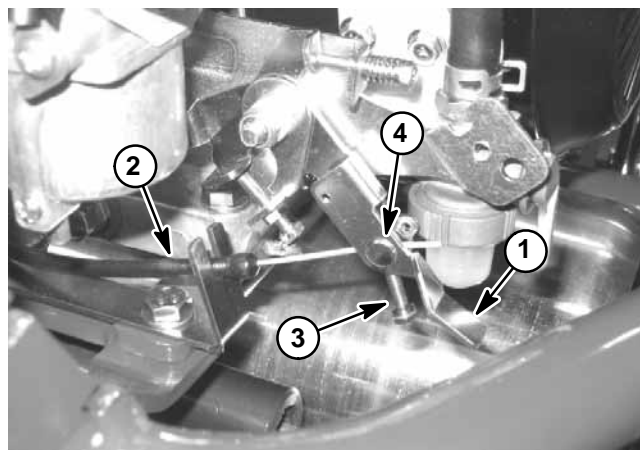
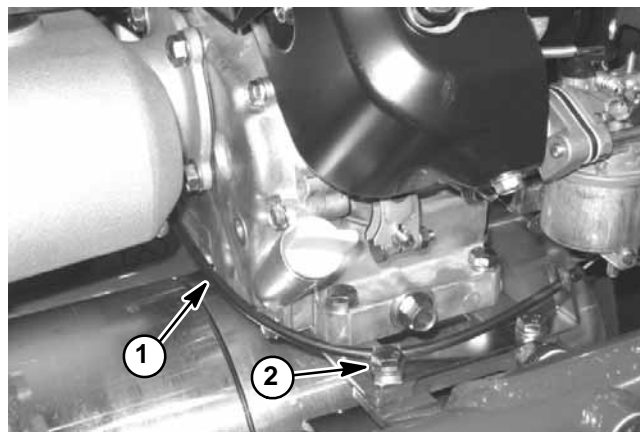
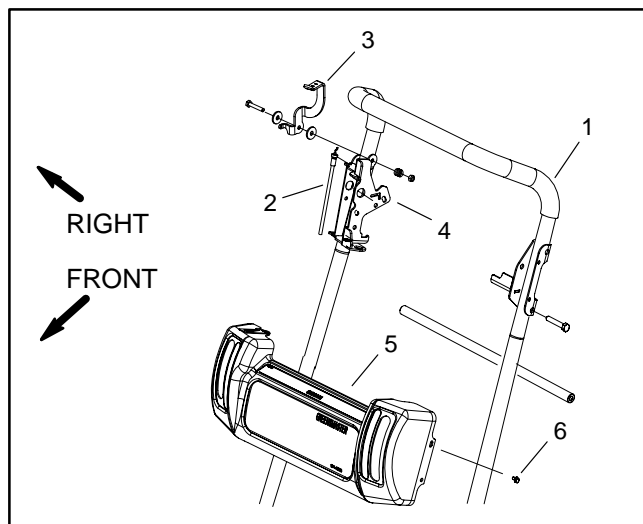

Figure 10
Figure 11
Figure 12
3. Remove throttle cable from the engine governor linkage as follows (Fig. 10):
B. Remove cap screw and flange nut that secure cable clamp to traction unit frame (Fig. 11). Locate and retrieve three (3) washers from under clamp.
4. Remove four (4) screws securing the console to the handle and move console forward and away from the handle.
5. Remove throttle cable from the throttle lever assembly (Fig. 12):
1. Connect throttle cable to the throttle lever. Snap throttle cable housing to the control bracket (Fig. 12).
2. Position console to handle and secure console with four (4) screws.
4. Install cable to the governor lever as follows (Fig. 10):
C. Position three (3) washers and cable clamp to frame. Secure with cap screw and flange nut.